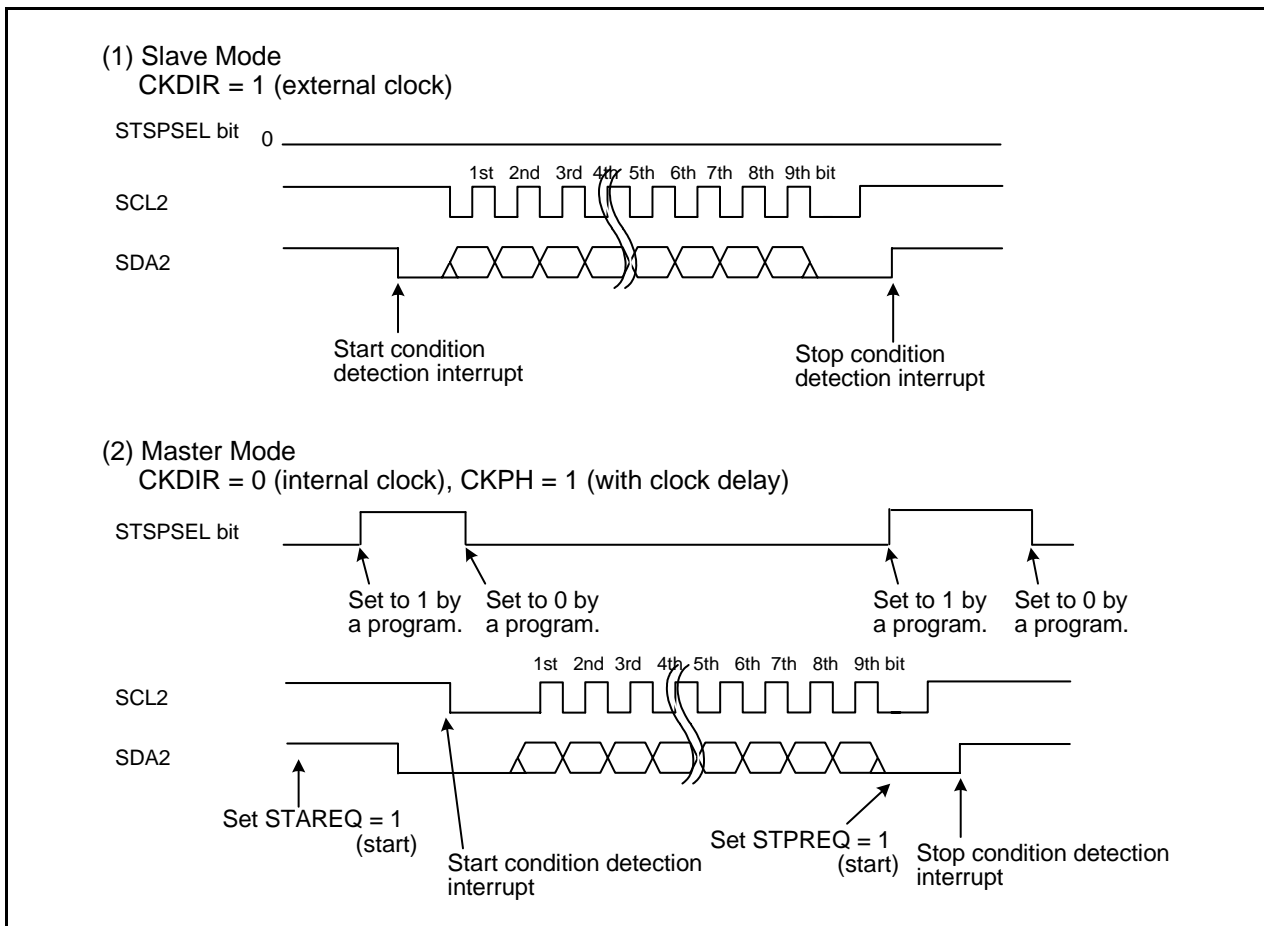

Figure 22.16 STSPSEL Bit Functions
- Refer to **Figure 22.16 STSPSEL Bit Functions**.
Table 22.13 lists the STSPSEL Bit Functions. Figure 22.16 shows the STSPSEL Bit Functions.